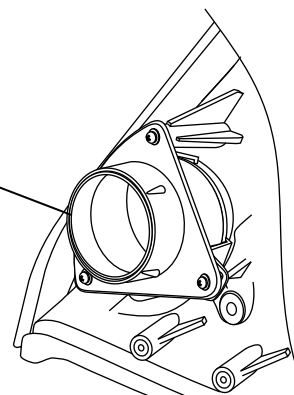

Figure 8
3. See Figure 8, below, for a completely assembled view of the A/C duct hose adapter.